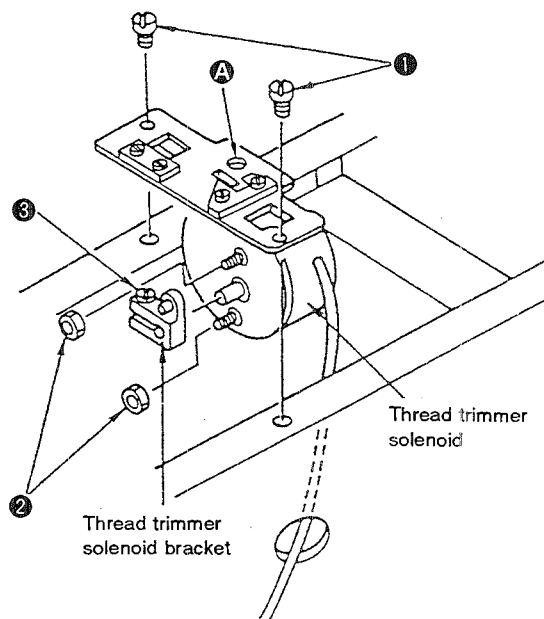
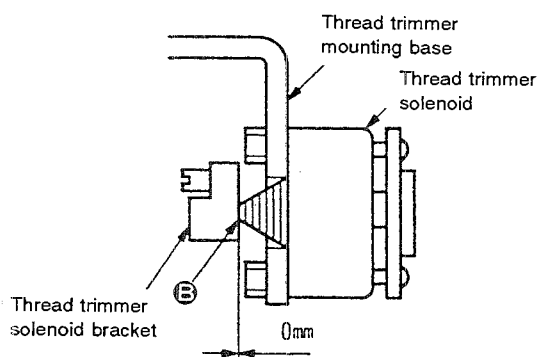
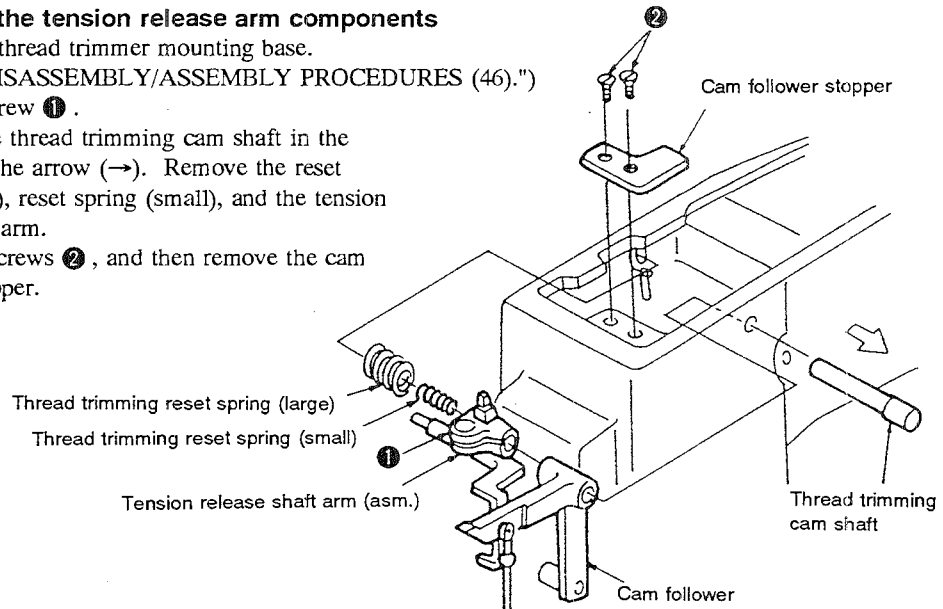

Fig. 5-46-1
Fig. 5-46-2
Fig. 5-47-1
- To fix the thread trimmer solenoid bracket, press the tension release shaft arm against the cam follower after fixing the thread trimmer mounting base (Fig. 5-47-1). Then, insert a screwdriver through **A** of the thread trimmer mounting base, and tighten setscrew **3** (Fig. 5-46-1). At this time, adjust the clearance between the trimmer solenoid bracket and the thread trimmer solenoid **B** to 0 mm. (Fig. 5-46-2)
- For the adjustment of the thread trimmer mounting base, refer to "STANDARD ADJUSTMENT (16)."